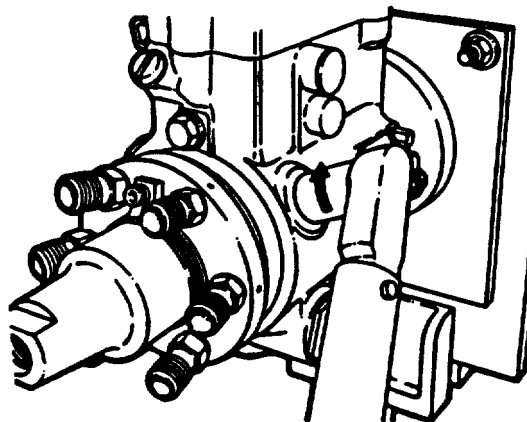

FIGURE 3-89. Installing Locking Head Bolts (Typical)
- cn. Tighten both head locking bolts (51, FIGURE 3-45) 15 to 18 ft-lbs (20 to 25 Nm), refer to FIGURE 3-89.